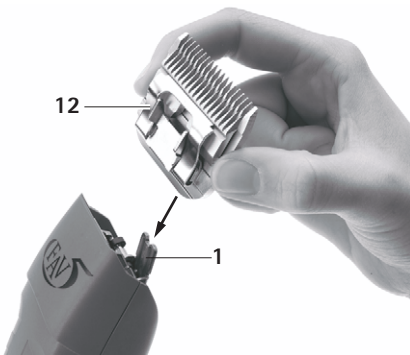

Fig. 2
- Install clipper blade 12 on open hinge 1, see Fig. 2.